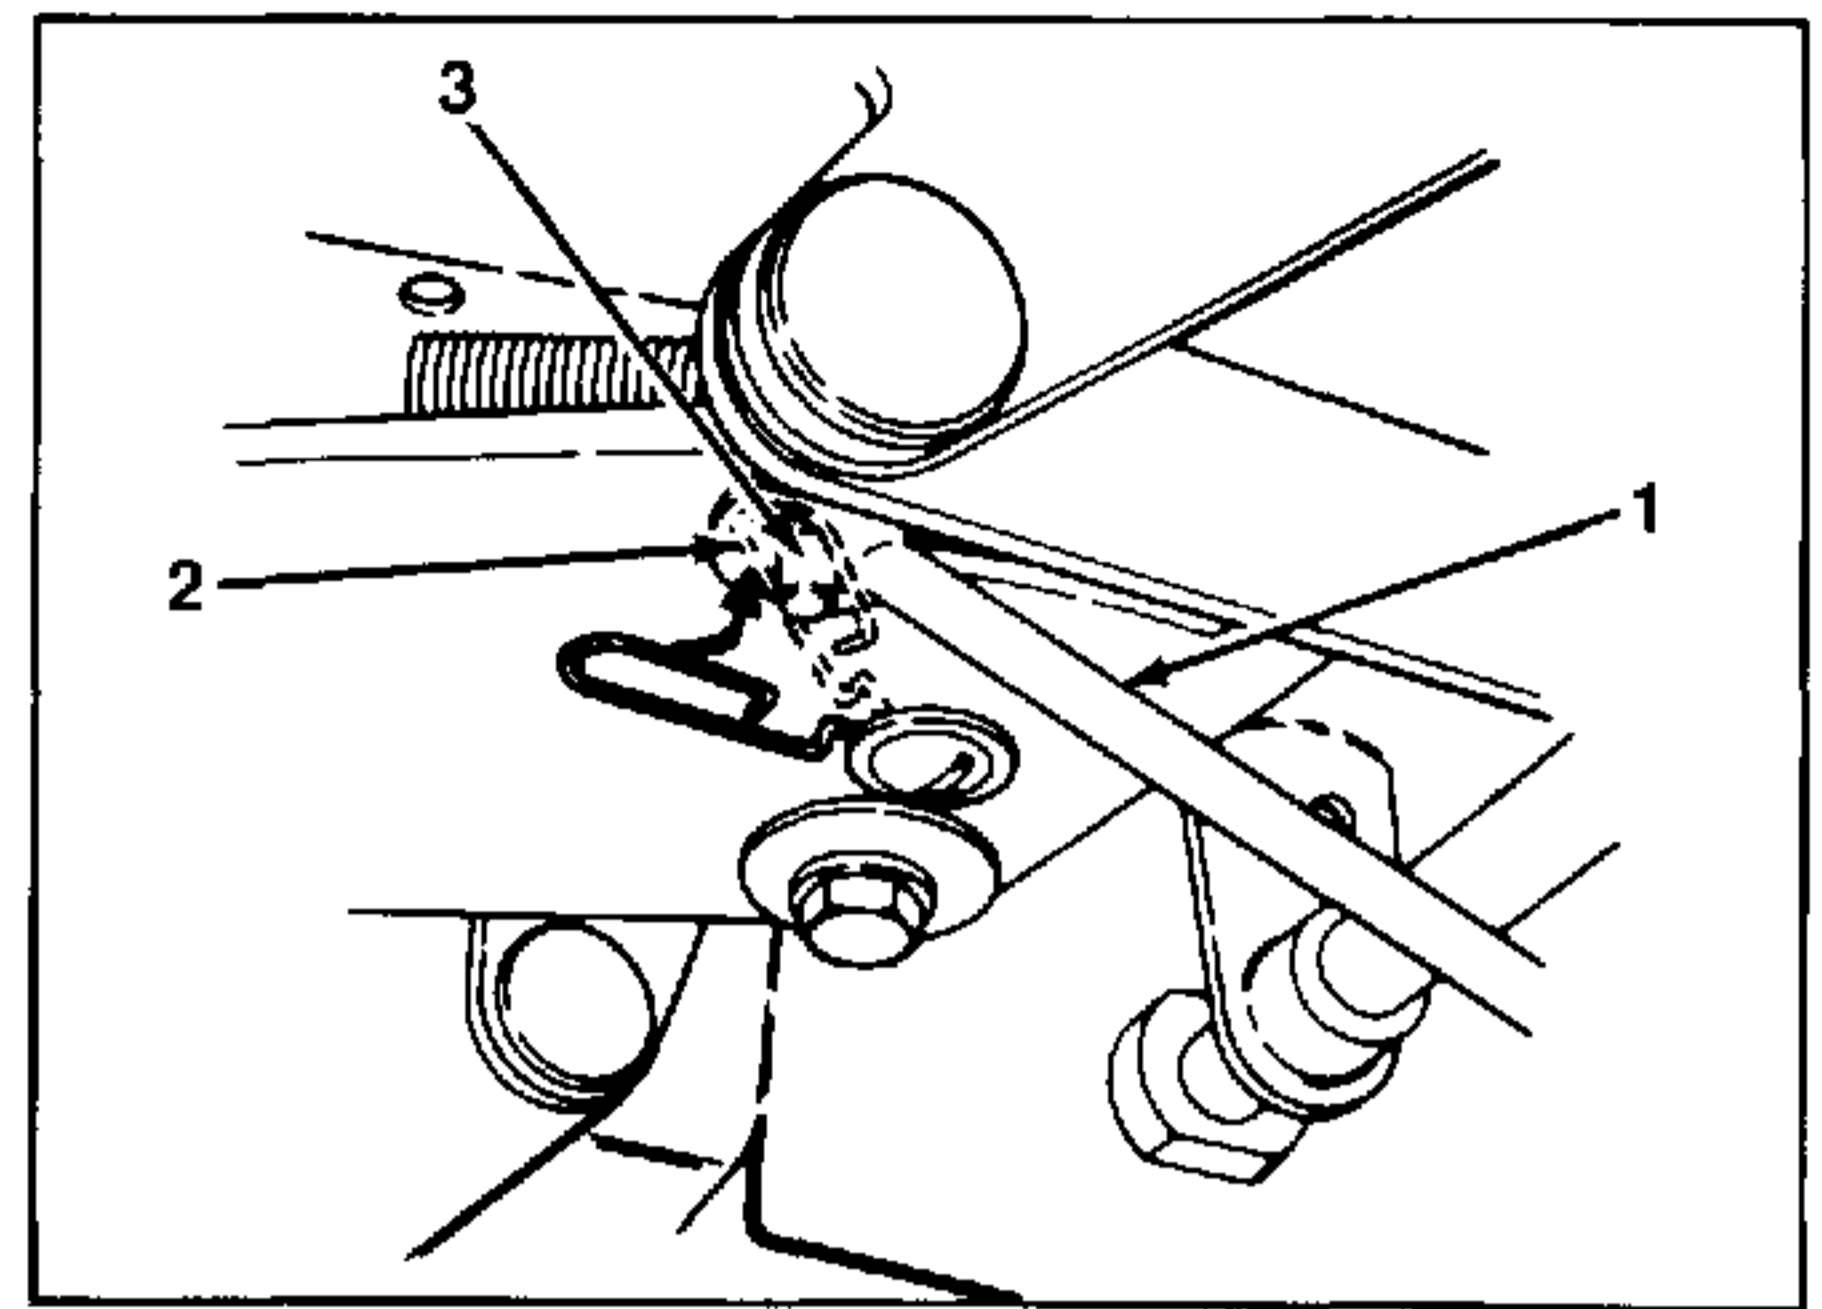

FIGURE 20.
- Attach the brake rod to the clutch rod; reposition the retaining spring over the clutch rod capturing the brake rod. Refer to figure 20.